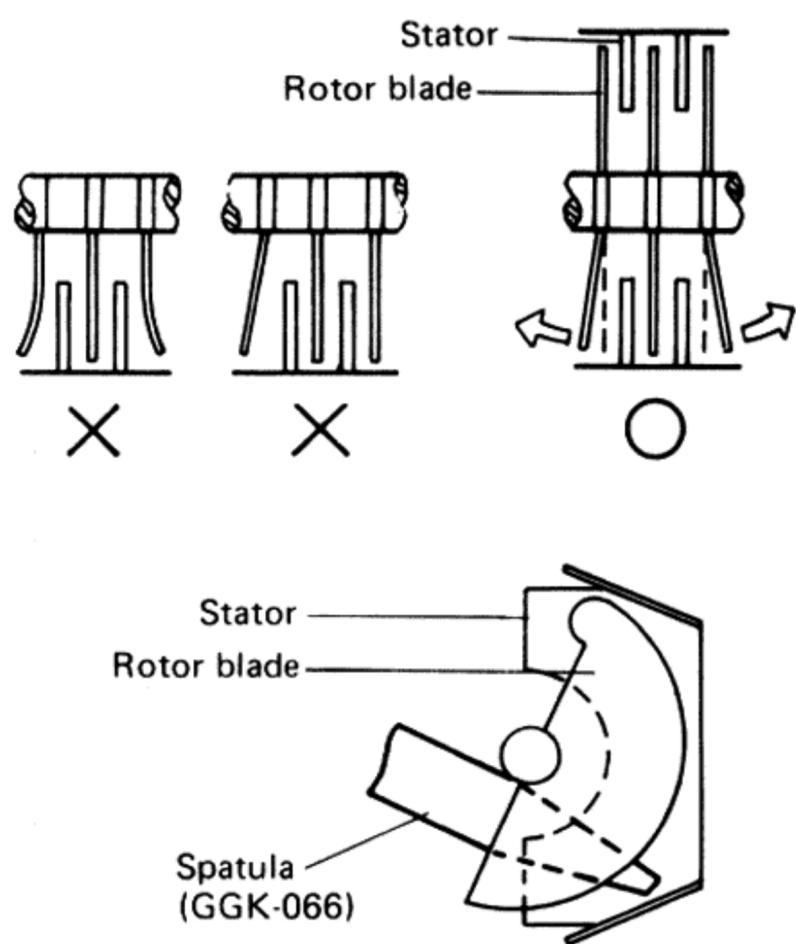

Fig. 8-1 Adjustment of tuning capacitor
- The tuning coils in the FM front end do not have an adjusting core. Consequently, tracking adjustments at 90MHz are performed by regulating the gap between rotor and stator of the tuning capacitors (VC₁, VC₃ and VC₅). The expression "adjust VC (VC₁, VC₃, VC₅) found in the text means that the two outer rotor blades of each of these tuning capacitors are to be extended outwards with spatula (Part No. GGK-066) as shown in Fig. 8-1.